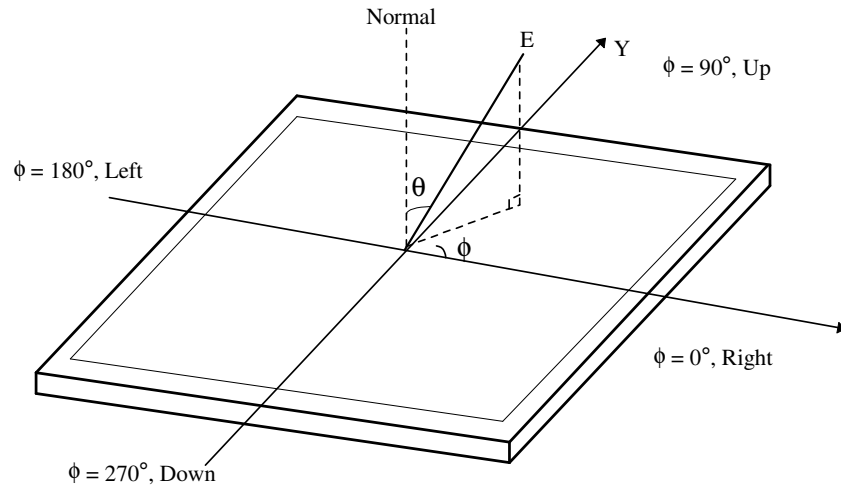

FIG. 4 Viewing angle
6. Viewing angle is the angle at which the contrast ratio is greater than 10. The angles are determined for the horizontal or x axis and the vertical or y axis with respect to the z axis which is normal to the LCD surface. For more information see FIG 4. **(By PR880)**